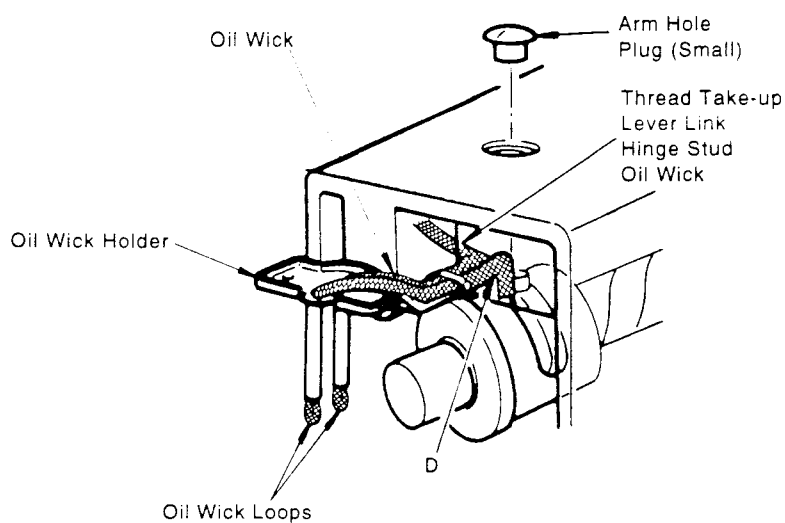

Fig.30
1. Remove arm hole plug (small), as shown in Fig. 30.
2. Insert the two oil wicks into the hole provided for them in the head of the machine, as shown in Fig. 30, so that wicks are slack over edge of oil wick holder at point D. This will insure free passage of oil. Using a screwdriver through hole at top of machine head, push the wicks down and bring them into positive contact with the thread take-up lever link hinge stud oil wick already installed.